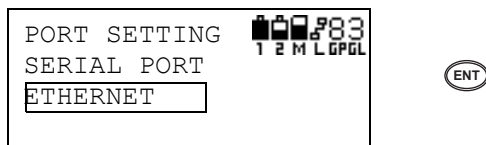

Figure 3-82. Select Ethernet and Press Enter
2. On the Port Setting screen, select ETHERNET and press **ENT** (Figure 3-82).